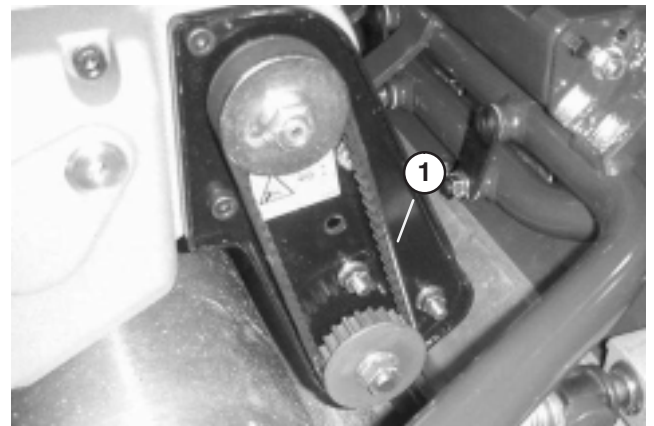

Figure 41
2. Check tension by depressing belt (Fig. 41) at mid span of pulleys with 4 ± 1 lb. of force. Belt should deflect 1/4 in. If deflection is incorrect, proceed to next step.